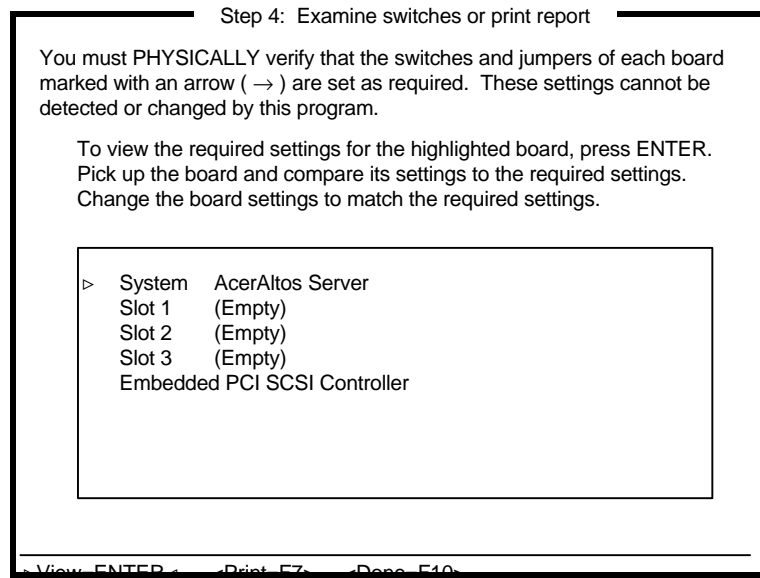

Figure 5-5 Examine Switches or Print Report
4. Select `Step 4: Examine switches or print report`, then press `ENTER` to display the screen as in Figure 5-5.